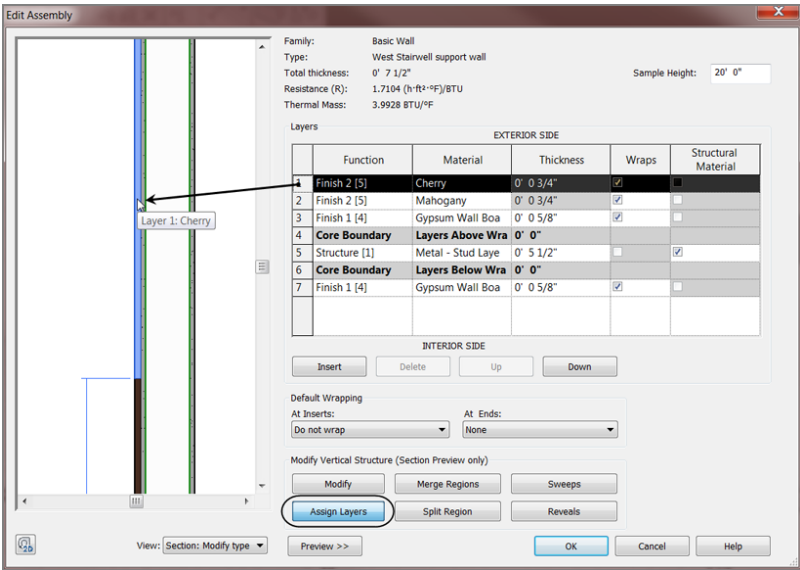

FIGURE 16.7: Assigning the cherry layer to the upper portion of the wall
1. Pick the Layer 1 row (Cherry), as shown in Figure 16.7.
2. Click the Assign Layers button (see Figure 16.7).
3. Move your cursor over the upper region of the plywood layer, and pick. Cherry is assigned to the upper portion of the wall, and the thicknesses are set to 3/4" (19mm) (again, see Figure 16.7).